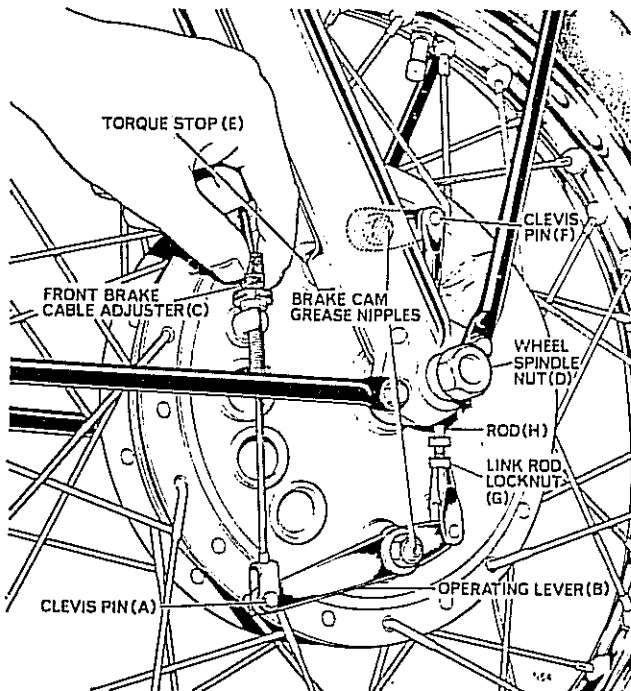

Fig. H10 Drum front brake external features
- 1 Take out the top clevis pin (F). See *Fig. H10*.
- 2 With the help of a second operator apply both the top and bottom operating levers (B) fully, and adjust the length of the link rod by slackening the link rod locknut (G) and screwing the link rod (H) in or out until with the linings still in contact with the drum the clevis pin can be refitted.
Routine brake adjustment is carried out by means of the cable adjuster (C). See Fig. H10. Correct adjustment will allow the wheel to spin freely with the minimum movement at the control lever.
Fig. H10 & H11 show the external features of the drum type twin leading shoe brake. Adjustment by this means is sufficient until such times as the brake shoes or linings are replaced. After replacement of such parts, the lining contact with the drum must be reset by means of the link rod adjustment.